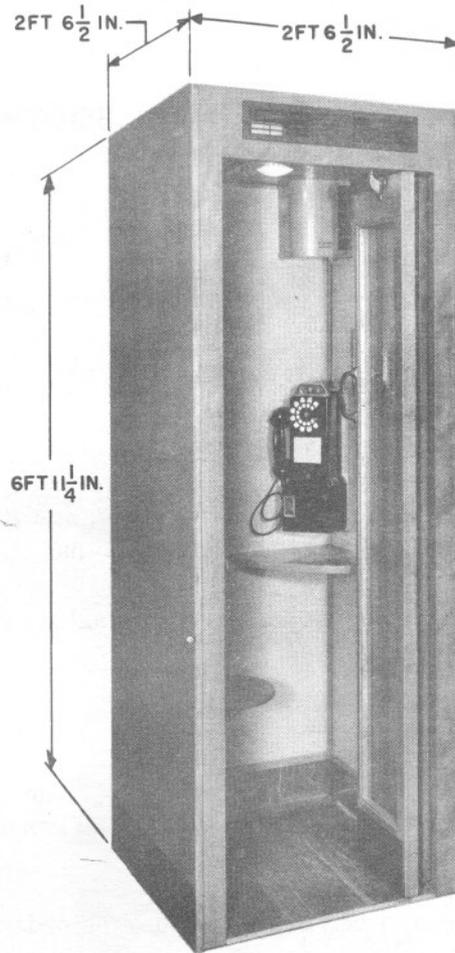

Fig. 2 - 11-type Booth
4.01 Structurally, the 10- and 11-type booths are similar except that the 11-type is equipped with a seat (see Fig. 2). The shelf and backboard, therefore, are mounted lower in the 11-type than they are in the 10-type booth.